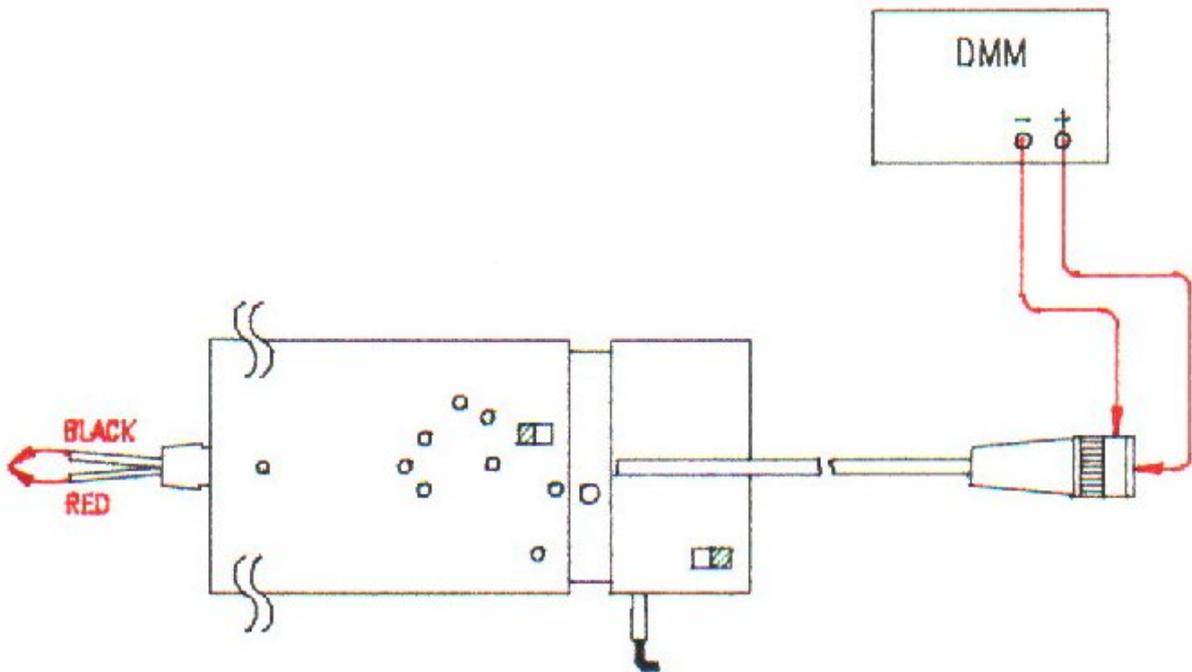

Fig. 6
- a. Referring to Fig. 6, connect both input lines together.